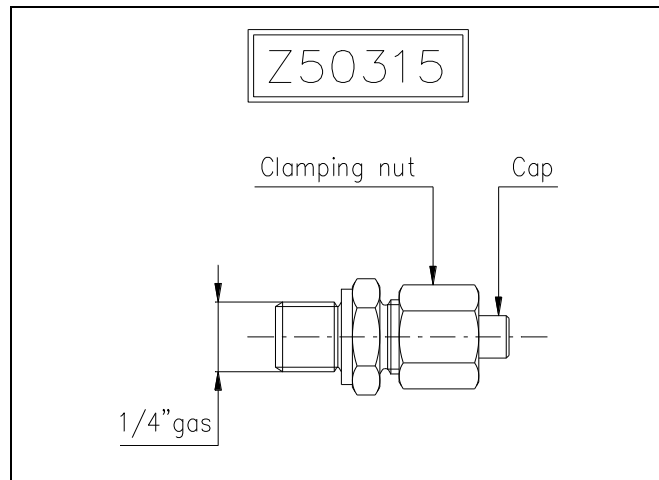

Figure 2
5. The brake is supplied with a bleed vent cod. Z50315 (Figure 2) as in Photo 4. To bleed air out of the circuit, loosen the retaining nut of the fitting (Photo 5) and pull the tubular cap outward. After bleeding off the air tighten the fitting again.